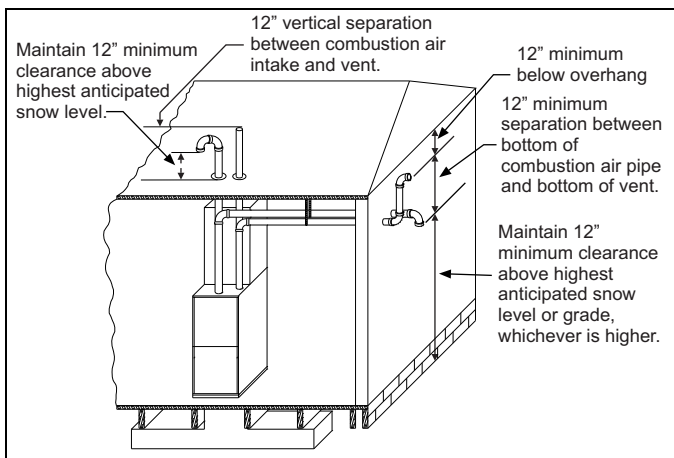
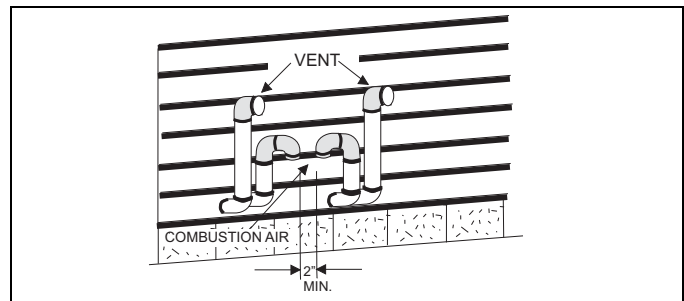

FIGURE 34: Termination Configuration - 2 Pipe
FIGURE 36: Double Horizontal Combustion Air Intake and Vent Termination
7. Direct vent systems must be installed so the vent and the combustion air pipes terminate in the same atmospheric zone. Refer to Figures 34 or 35.
The combustion air side of the two-pipe configuration shown in Figure 34 can be installed so the combustion air pipe terminates as described in outdoor combustion air or ventilated combustion air sections in these instructions. Follow the instructions for outdoor combustion air or ventilated combustion air and the instructions for installing the vent system with the vent terminating as shown in Figures 36 or 37. The two-pipe system must have a separate combustion air pipe and a separate vent pipe for each furnace. Under NO circumstances can the two combustion air or vent pipes be tied together. The combustion air and vent pipes must terminate in the same atmospheric zone.